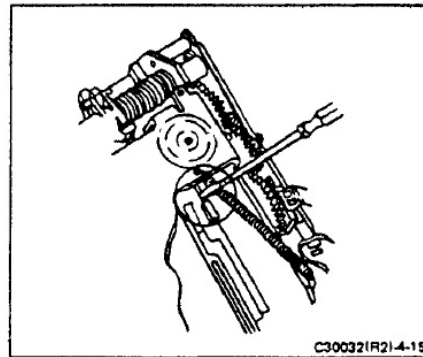

FIGURE 4-15 RELEASE BOOT RETAINER TAB
- Refer to Figure 4-15. Use a narrow-blade jeweler's screwdriver. While pulling the corner of the mirror cover away from the frame, depress the boot retainer tab to clear the retaining stud. Release the pressure as soon as the tab snaps free.